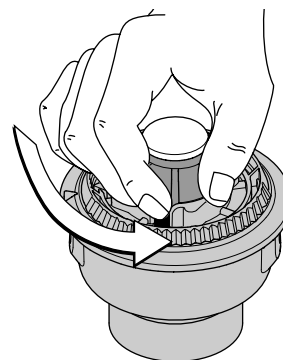

Fig. 54
1. Hold the outer spool, and unscrew the bump knob counterclockwise (Fig. 54).